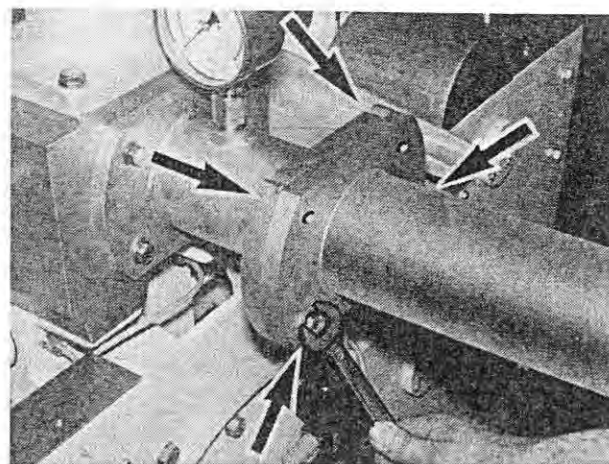

Fig. 217
18. Loosen the locking screws (Figure 217/arrows) of the product feeding line and disconnect this line from the fitting flange.